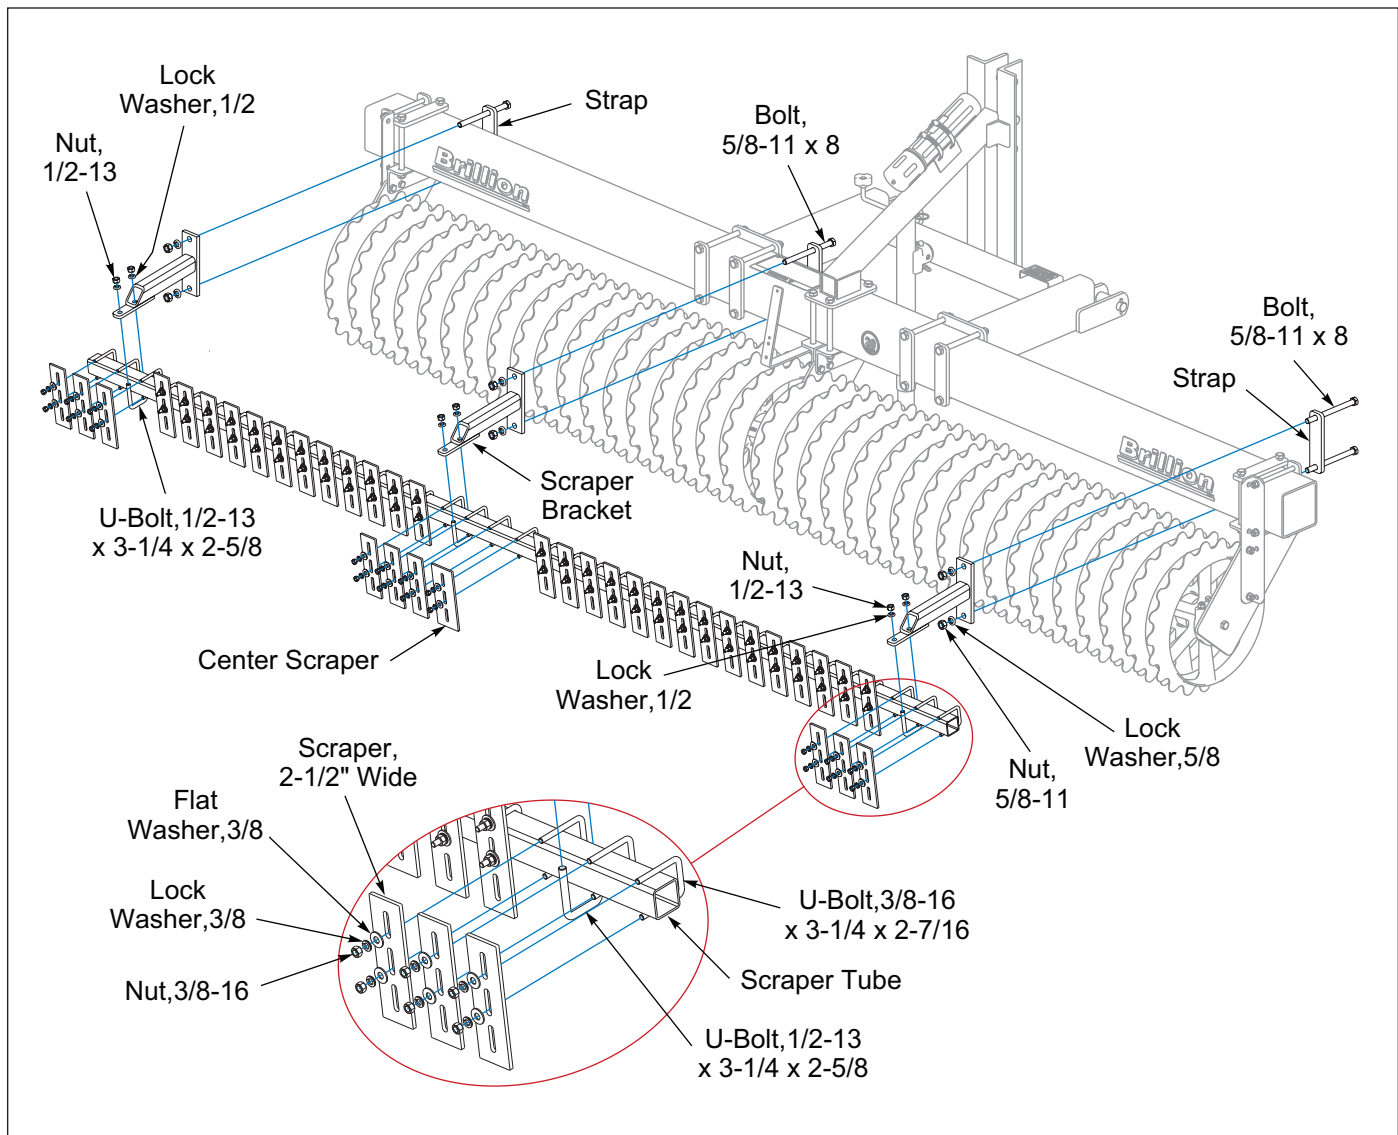

Figure 2-8: Scraper Kit - Optional
2. At the rear of the Pulverizer, center a Scraper Bracket over the Wheel Notches of the 2nd Wheel from each end of the Roller. Machines with three Scraper Brackets, place the third Scraper Bracket centered over the Wheel Notches of the 3rd Wheel left of the Pulverizer center. Attach the Scraper Brackets to the Pulverizer Frame with 2-Hole Strap, 5/8-11 x 8 Bolts, Lock Washers, and Nuts. **See Figure 2-8.** Machines with four Scraper Brackets, place the third and fourth Scraper Bracket centered over the Wheel Notches of a wheel on each side of the 3-PT Hitch.